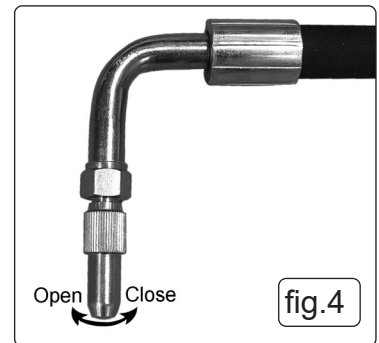

fig.4
5.3.2. With the nozzle pointing into the receiving container, open the nozzle valve as shown in fig.4.